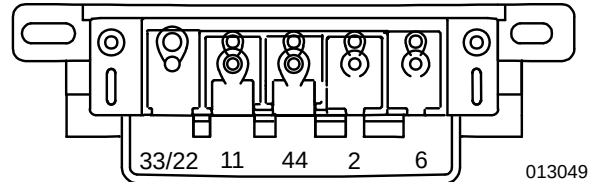

Figure 8-3. Stator Terminal Block Wires
1. See Figure 8-2 and Figure 8-3. Remove the stator terminal block cover (A) and identify the studs containing Wires 2 and 6.